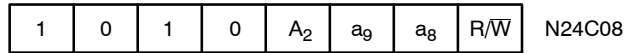

Figure 3. Slave Address Bits
The Master initiates data transfer by creating a START condition on the bus. The Master then broadcasts an 8-bit serial Slave address. For normal Read/Write operations, the first 4 bits of the Slave address are fixed at 1010 (Ah). The next 3 bits are used as programmable address bits when cascading multiple devices and/or as internal address bits. The last bit of the slave address, R/W, specifies whether a Read (1) or Write (0) operation is to be performed. The 3 address space extension bits are assigned as illustrated in Figure 3.  $A_2$ ,  $A_1$  and  $A_0$  must match the state of the external address pins, and  $a_{10}$ ,  $a_9$  and  $a_8$  are internal address bits.